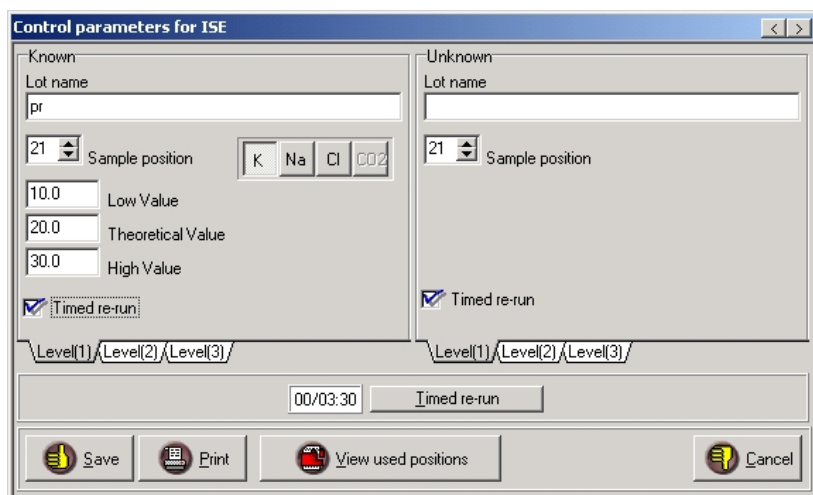

Figure 5
Go to the **Global list** or the **Current Tray list**. Select **ISE**, and then click **Controls** to display the **Controls parameters for ISE (Figure 5)**. The Controls programming (automatic or on request) follows the identical procedure of Clinical Chemistry (**Chapter C, paragraph 1.4. Controls**). Selection of a single electrode is required prior to controls programming.
The displayed page is divided into two parts, one for the **Known** controls and the other for the **Unknown** controls (**Figure 5**). The opening page is default set to **Level (1)** controls. To set parameters for Level 2 and 3, click corresponding tabs.